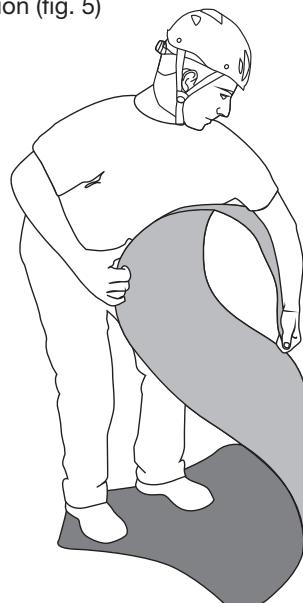

Fig. 5
- Remove the “ROLLY” rescue sheet from the transport bag (O) and remove the ratchet sling (N)
- Distend the support surface (A) and flatten it, rolling the ends over in the opposite direction and folding the central section (fig. 5)